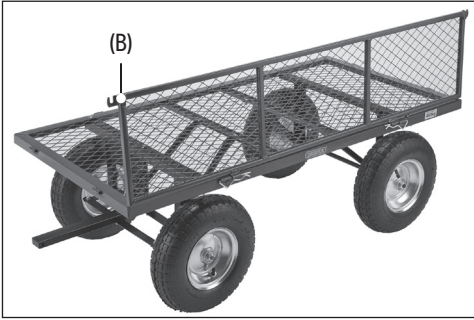

Fig. 16
1. Rest the lower edge of the cage side panels (B) on the lips along the sides of the cage bed so that the loops align. (Fig. 16).